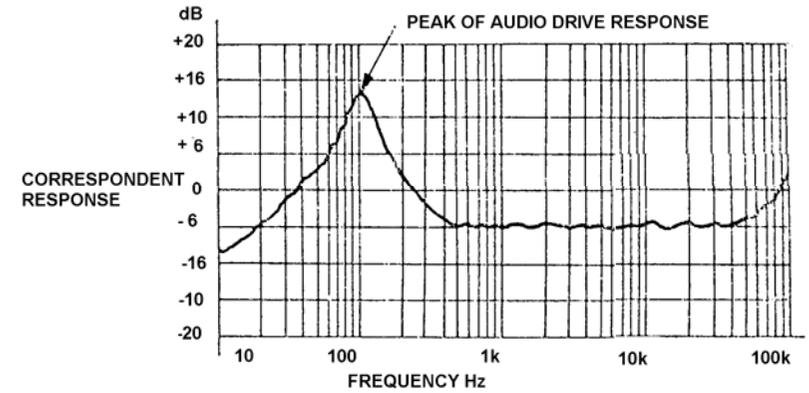

Figure 9
- (c) For speaker testing, the peak voltage value occurs on the resonant frequency of the speaker as Figure 9 illustrated.